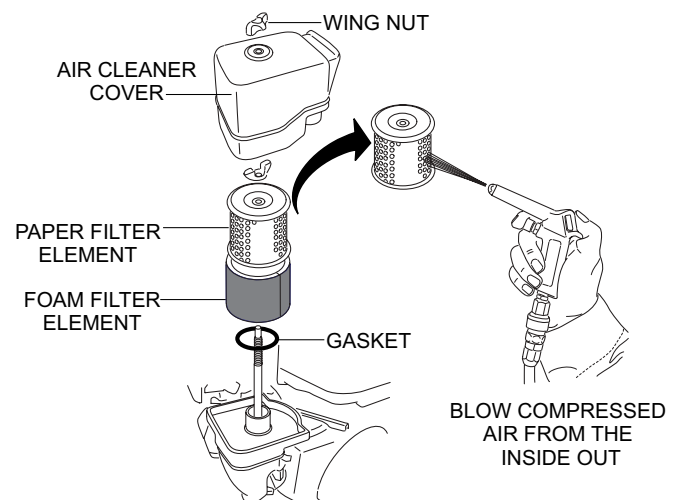
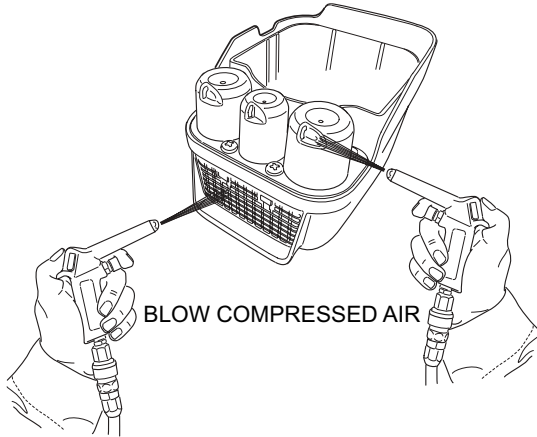

Figure 25. Engine Air Filter
Figure 26. Engine Air Filter Cover
The Honda GX160UT2SCM engine is equipped with a replaceable, high-density paper air cleaner element. See (Figure 25) for air cleaner components.
- Blow compressed air (Figure 26) through the air cleaner cover as shown in (Figure 25). Clean inside of air filter cover with warm, soapy water or nonflammable solvent. Rinse and dry thoroughly.